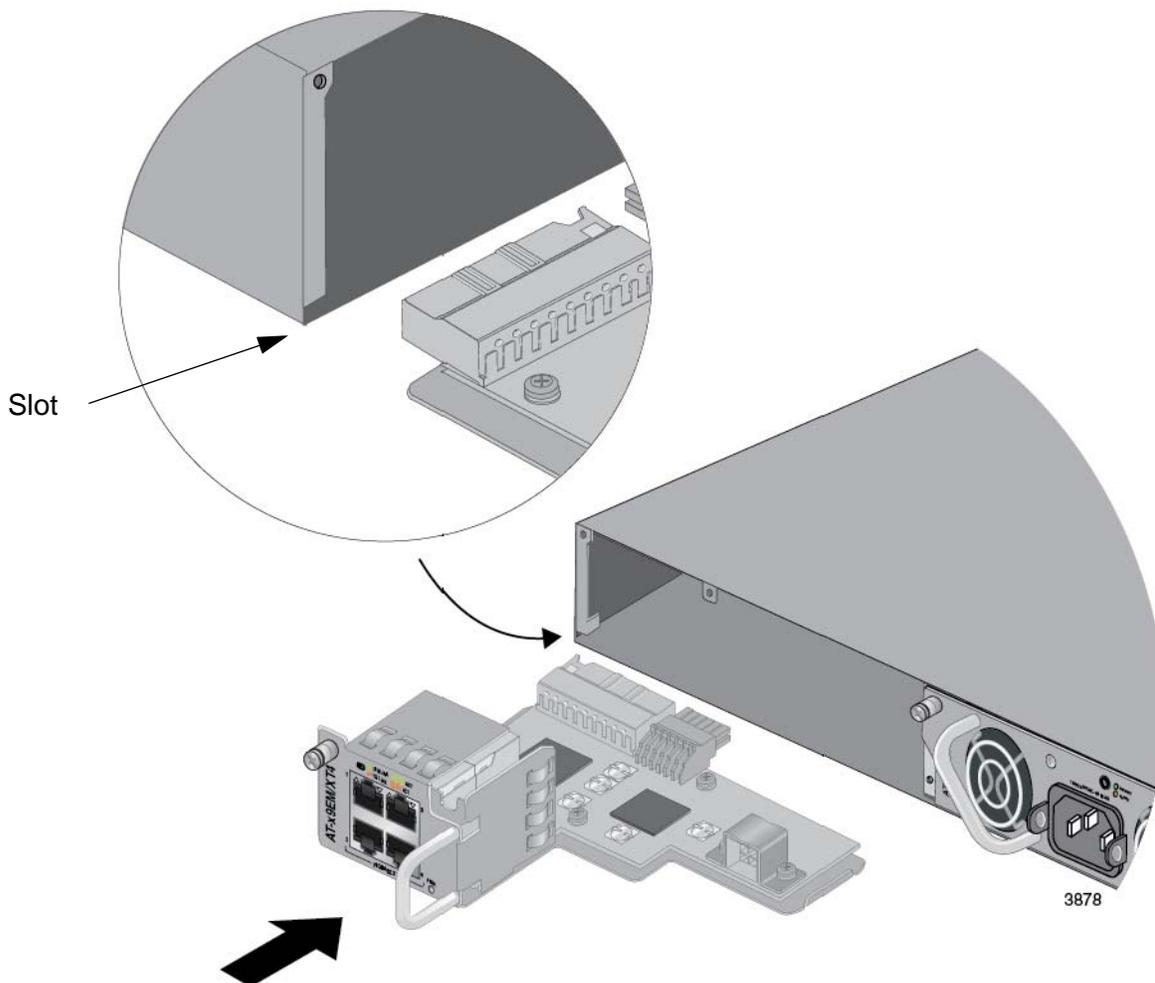

Figure 33. Aligning the AT-x9EM/XT4 Card in the Slot
- Carefully align the AT-x9EM/XT4 Card in the slot and slide it into the switch. The left edge of the card fits into the slot in the bottom corner of the switch. Refer to Figure 33.